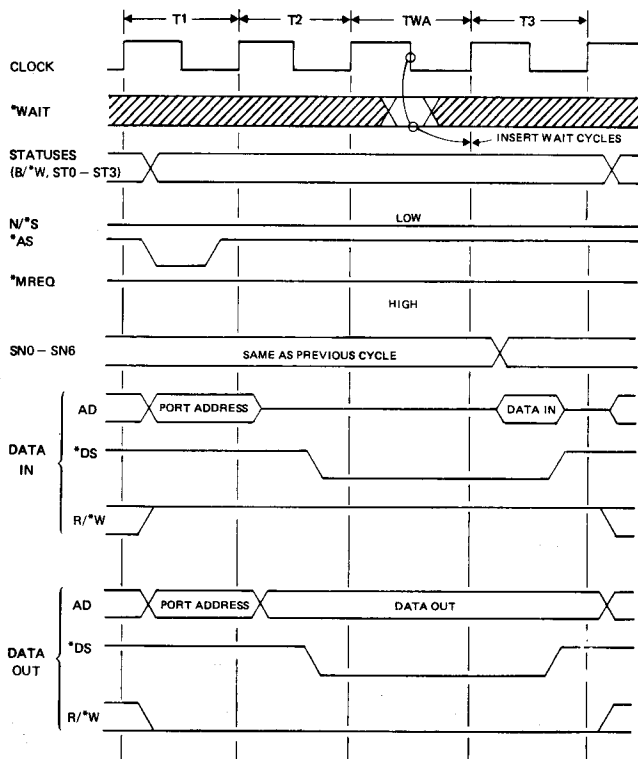

Fig. 2-15 Input/Output Timing
**Input/Output Read or Write** - Figure 2-15 shows the input/output timing for the Z8001.